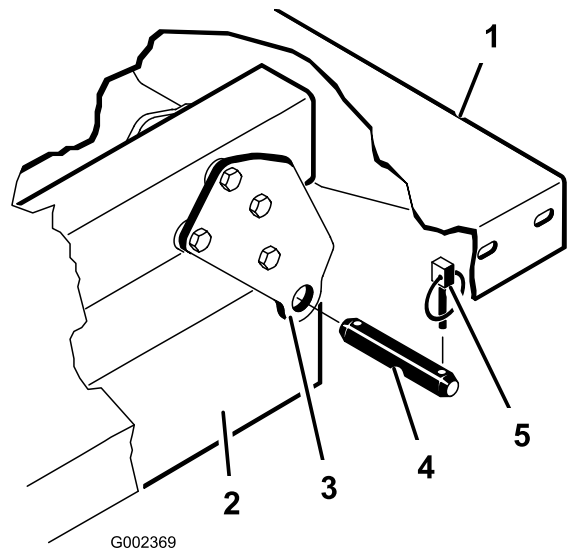

Figure 29
4. Remove the clevis pins securing the cylinder rod ends to the bed mounting plates by pushing the pins towards the inside (Figure 29).
5. Remove the lynch pins and clevis pins securing the pivot brackets to the frame channels (Figure 29).
Note: Ensure that the rear pivot plates are bolted to the bed frame/channel so that lower end angles to the rear (Figure 29).
2. Carefully set the bed onto the machine frame aligning the rear bed pivot plate holes with the holes in the rear frame channel and install 2 clevis pins and lynch pins (Figure 29).
4. Insert the clevis pin from outside of the bed with the lynch pin toward the outside (Figure 29).